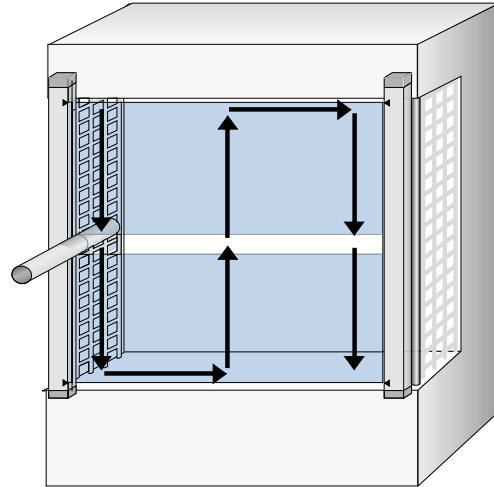

Figure 17: Test rod check: Step 1
1. Move the test rod slowly through the protective field to be protected (e.g., machine opening as indicated by the arrow, see figure 17, page 30).